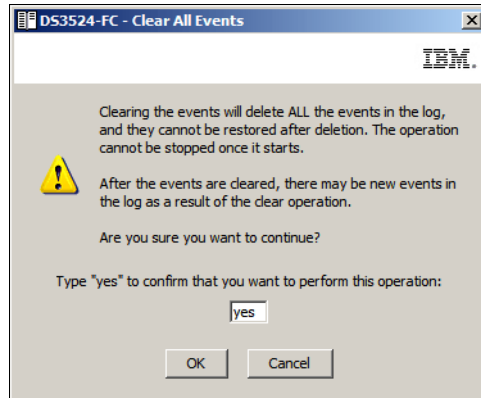

Figure 14-97 Event view - Confirm Clear All Events
- **Clear All:** Select this option to clear the event log. In the confirmation window (Figure 14-97), type yes to delete all the events. Save all event logs before clearing the log.